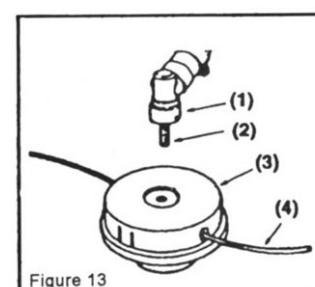

Figure 13
- (1) Nut
- (2) Outer holder 1
- (3) Outer holder 2
- (4) Blade
- (5) Gear shaft
- (6) Bar
- (7) Inner holder
- (8) Gear case
■ INSTALLING THE NYLON CUTTER(OPTION) (Figure 13)